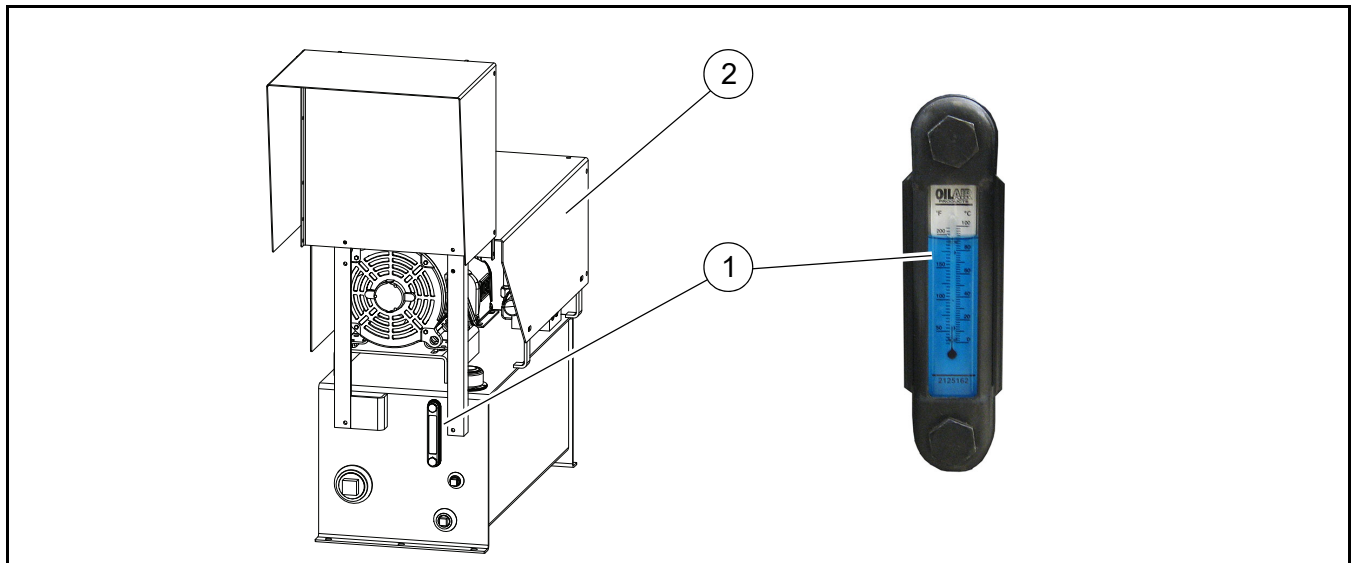

Figure 14
3. Check the hydraulic fluid in the reservoir to be sure it is adequate. The oil must be to the 3/4 level or full on the sight gauge (**Figure 14, 1**). To add or replace, use an ISO Viscosity grade 32 of Northland Tamar Extreme[®] LTE premium anti-wear hydraulic fluid. Hydraulic fluid can be used from an alternative vendor, but the fluid must meet the properties identified in the table in the MAINTENANCE section. Also, any alternative hydraulic fluid must meet the performance specifications identified at the bottom of the table.
4. Remove the cover (**Figure 14, 2**) over the motor and pump to provide access.